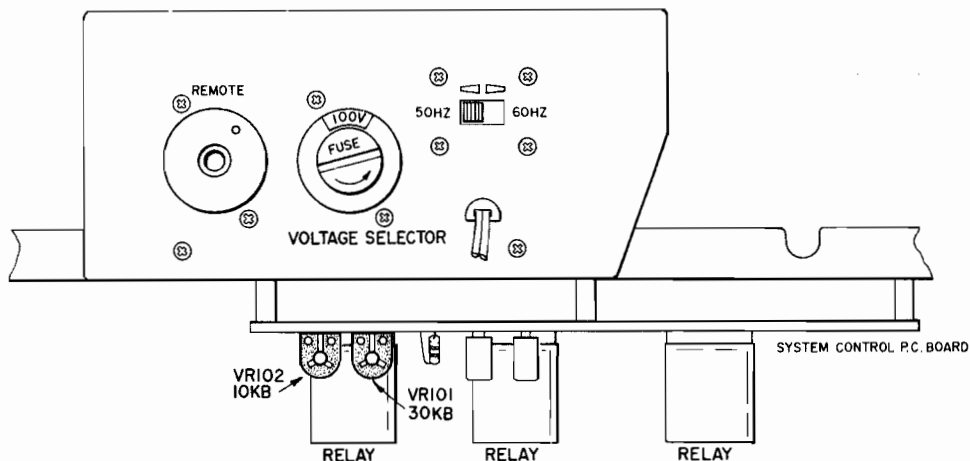

Fig. 20
3. ADJUSTMENT OF FORWARD ↔ REVERSE TIME CONSTANT (See Fig. 20)
4. ADJUSTMENT OF FAST FORWARD OR REWIND TO FORWARD OR REVERSE PLAYBACK (See Fig. 20)